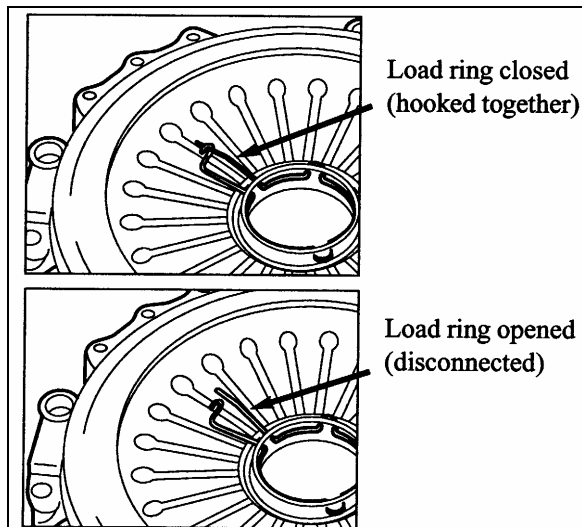

FIGURE 8: RELEASE BEARING RETAINING CLIP 07112
- Ensure that the release bearing retaining clip (located on the "fingers" of the pressure plate) is closed. Refer to figure 8.
should be able to both hear and feel the bearing seat into place. Refer to figure 8.